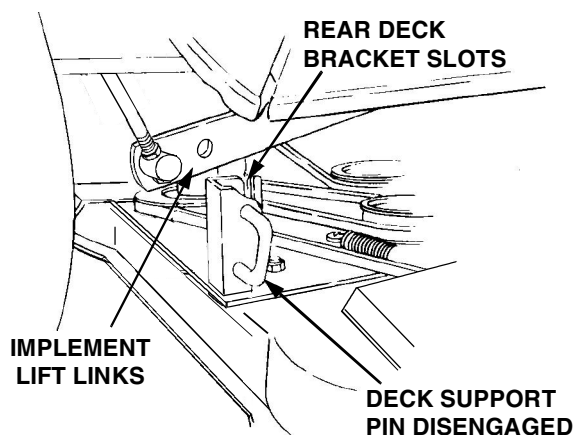

Figure 2-7
8. If not already done, pull the deck support pins outward, turn downward and release so both spring-loaded pins are held in the disengaged position against the outer surface of the deck brackets (See Figure 2-7).